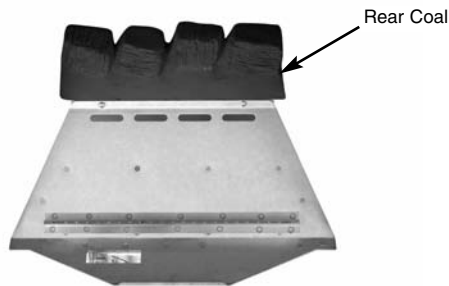

Fig. 81
1. Place the rear coal on the rear coal retainer ledge in a central position (Fig. 81).